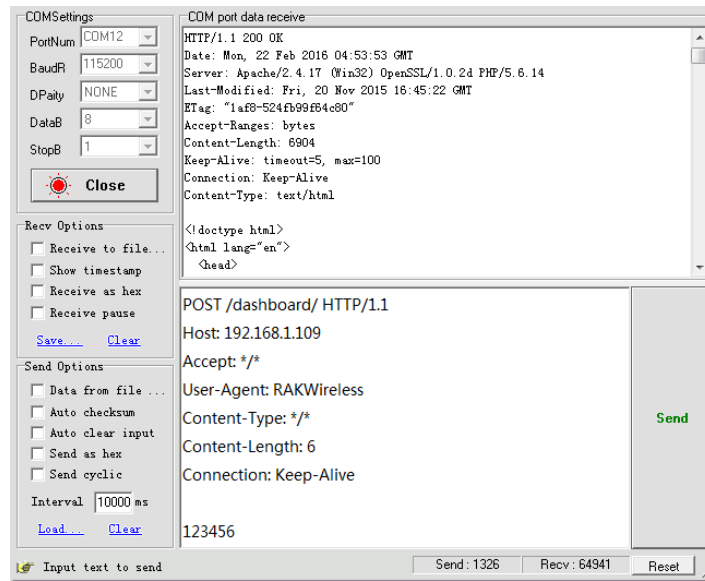

Figure 1-4 Diagram of Serial Port Sending and Receiving
2. Submit the web content, and send data “123456” to the web page, as shown in Figure 1-4.